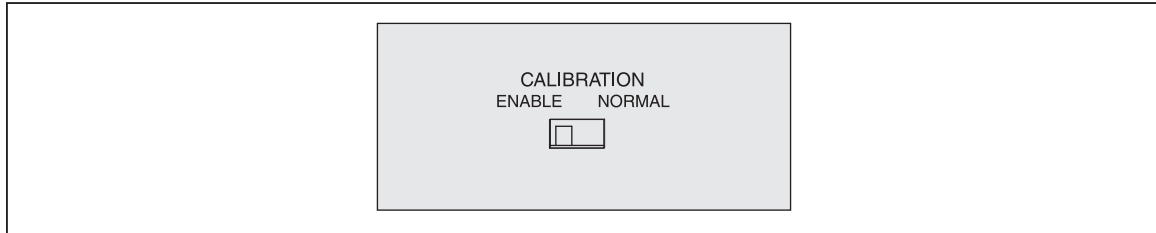

Figure 5-3. Calibration Enable Switch
4. On the rear panel of the Product, set the Calibration switch to **Enable**. See Figure 5-3.